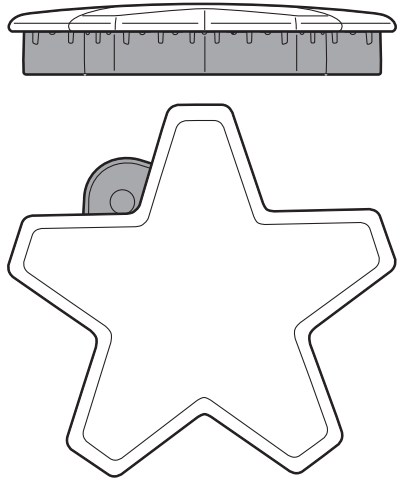
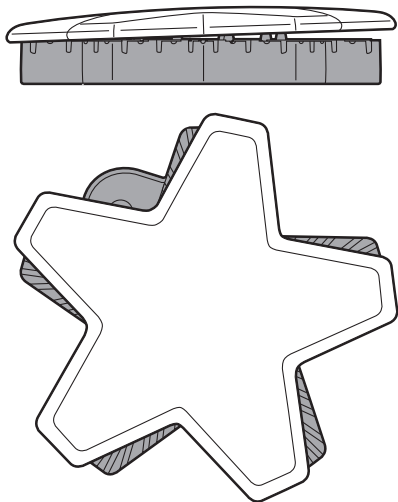

Figure 6: Correct Burner Cap Placement
Figure 7: Incorrect Burner Cap Placement
- Check each burner to make sure there is no gap between the burner cap and burner base. See *Figure 6* and *Figure 7* for examples of correct and incorrect placements of the burner cap.
- You may gently try to move the burner caps from side to side to check if the caps are properly placed on the burner bases. When properly placed, each burner cap will rest flat on top of its burner base, and completely cover the star-shape of the burner base when viewed from the top as shown in *Figure 6*.
Each STAR[®] burner has its own electronic igniter that sparks when the burner is turned on. Each burner should light in 4 seconds or less. If a burner does not light, check to see that the burner cap is positioned correctly on the base (see *Figure 6* and *Figure 7*).